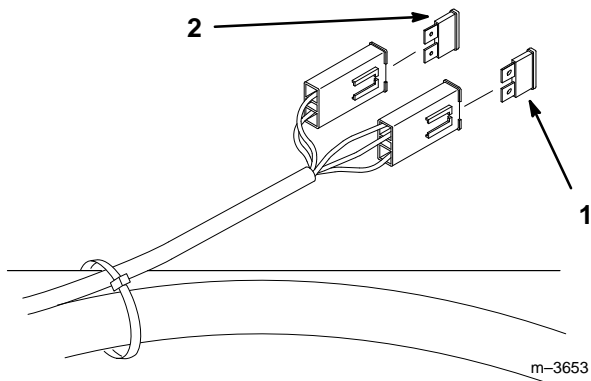

Figure 40
1. Raise the seat to gain access to fuse holder (Fig. 40).
2. To replace fuses pull out on the fuse to remove it (Fig. 40).